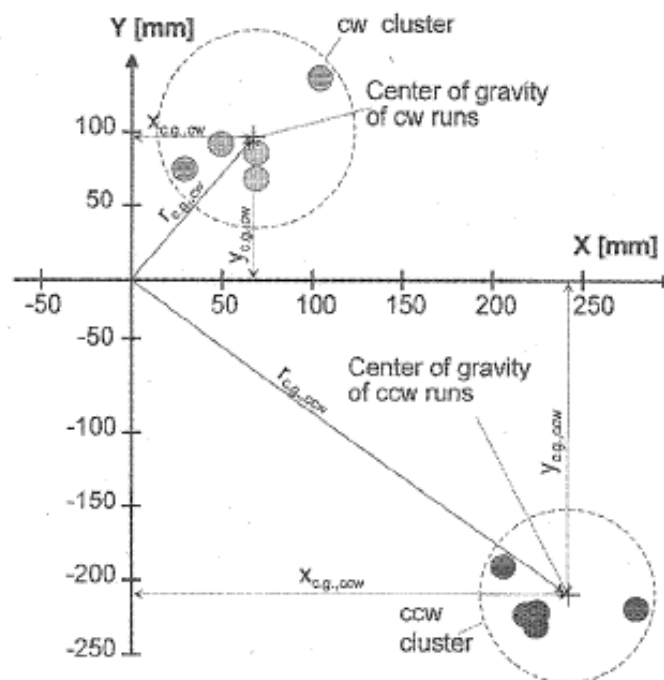

Figure 7: Odometry error on an uncalibrated vehicle
8. If this data is plotted on an x-y scatter plot, there will be two distinct quadrants, one for the cw runs and one for the ccw runs (see Figure 7).
9. You should include the table of data for the 10 square traversals (cw, ccw) and the graph similar to Figure 7 for your data in the lab memo submission.